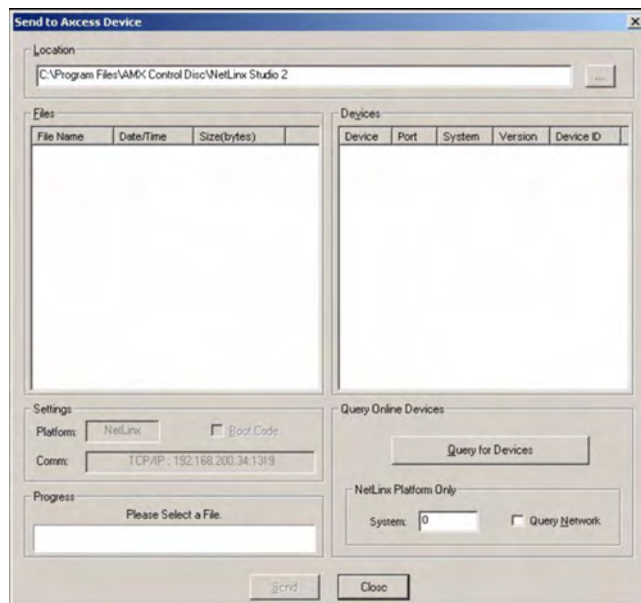

FIG. 4 Send to Access Dialog Window
5. Go to **Tools > Firmware Transfers > Send to Access Device...** This opens the *Send to Access* Dialog Window(FIG. 4).